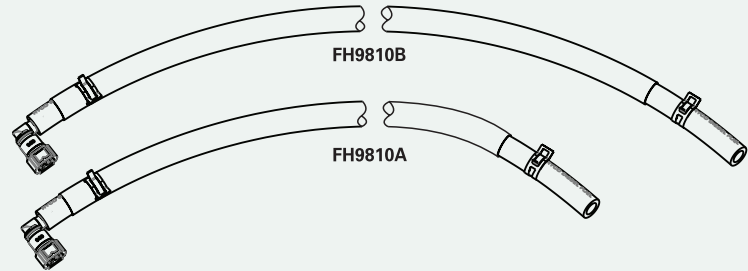

FIGURE 7
- 4 Install two (2) supplied elbow connectors onto one end of both the supplied fuel hoses and install four (4) supplied fuel hose clamps onto each end of the fuel hoses, as per FIG. 7. Do not tighten the fuel hose clamps yet.